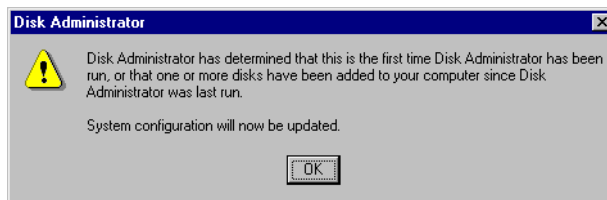

Figure 44. Windows NT Disk Administrator warning
- b. You receive a message similar to the example in Figure 44. Click **OK** to continue.